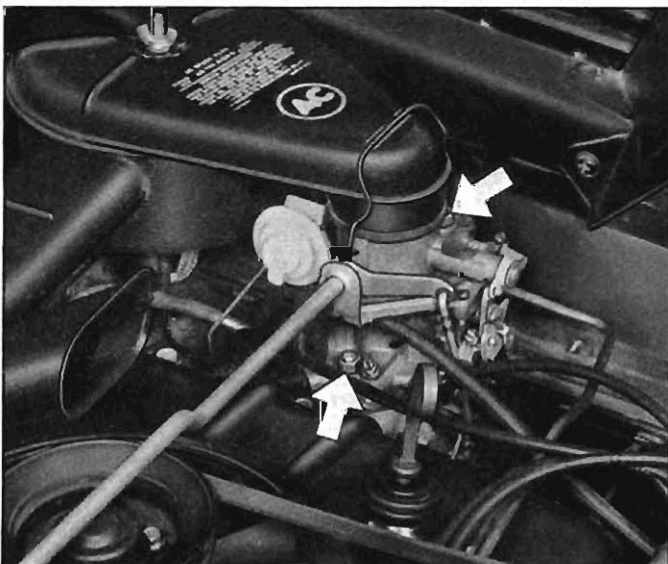

Fig. 9-12—Removing Carburetor
6. Remove two nuts and washers attaching carburetor to intake manifold studs (fig. 9-12).